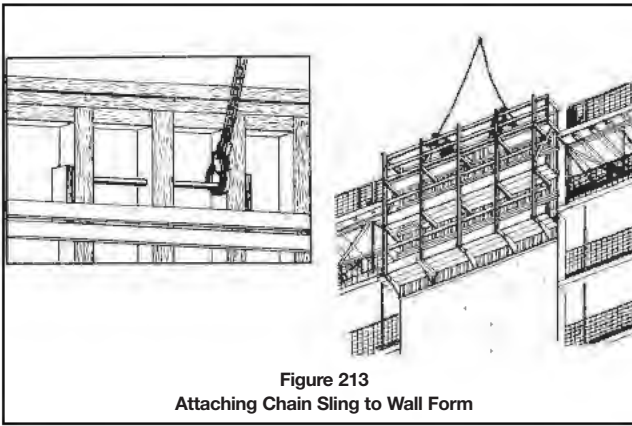

Figure 213
- bolting and unbolting wall forms for exterior walls and elevator shafts (Figure 213)